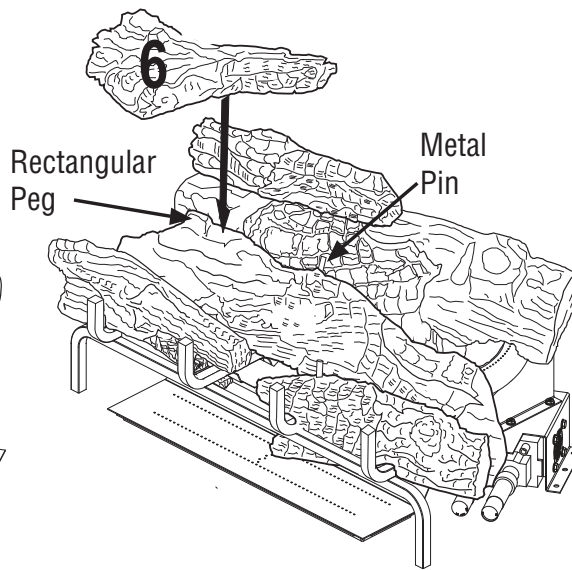

Figure 42 - Installing Log # 6
6. Place the left top forked log (#6) on top of the middle log (#2). Match the rectangular projection on top of the middle log (#2) with the rectangular hole on the bottom of the left top forked log (#6). Match the metal pin on the top of the middle log (#2) with the round hold in the bottom of the left top forked log (#6). See **Figure 42**.